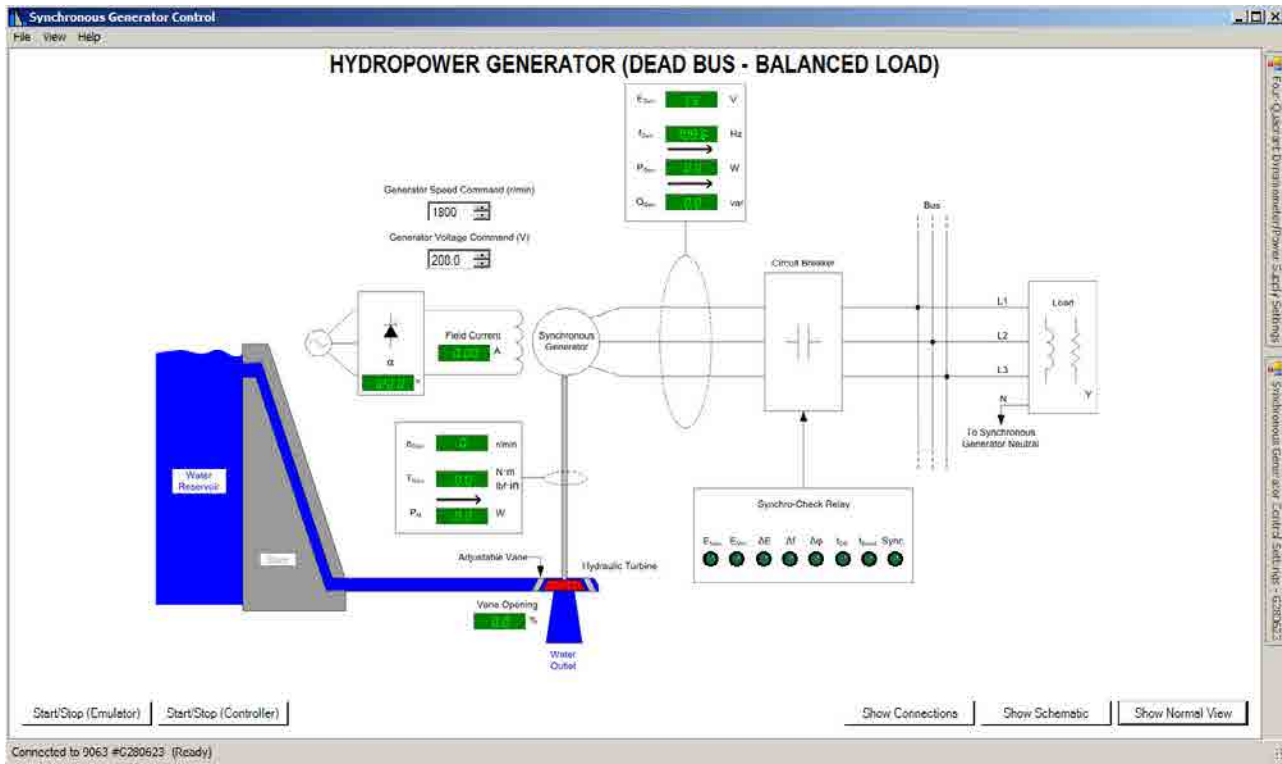

Figure 14: SCADA view of the Hydropower Generator (Dead Bus - Balanced Load) function.
- Clicking the Show SCADA View button brings up a SCADA view (Figure 14) of the generator containing additional buttons used, among others, to start and stop the emulator and controller of the generator.